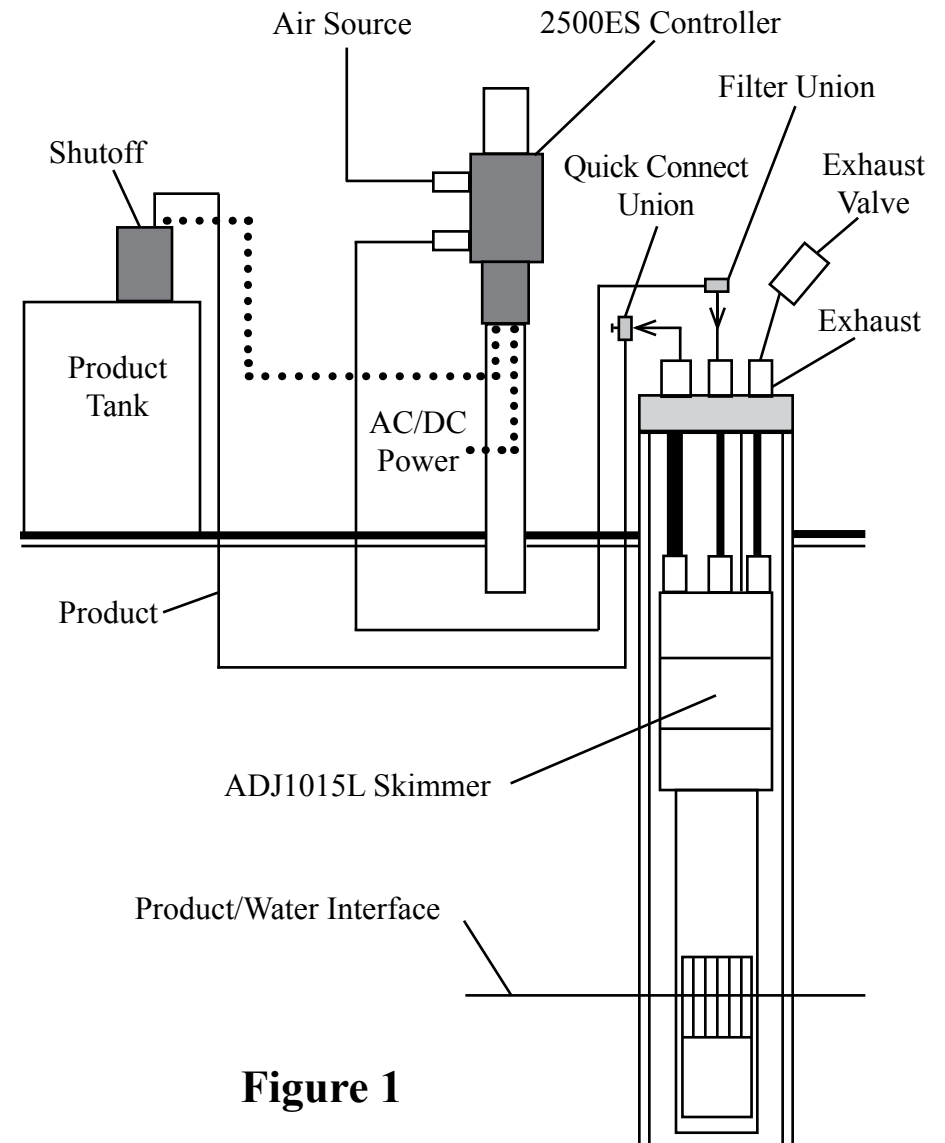
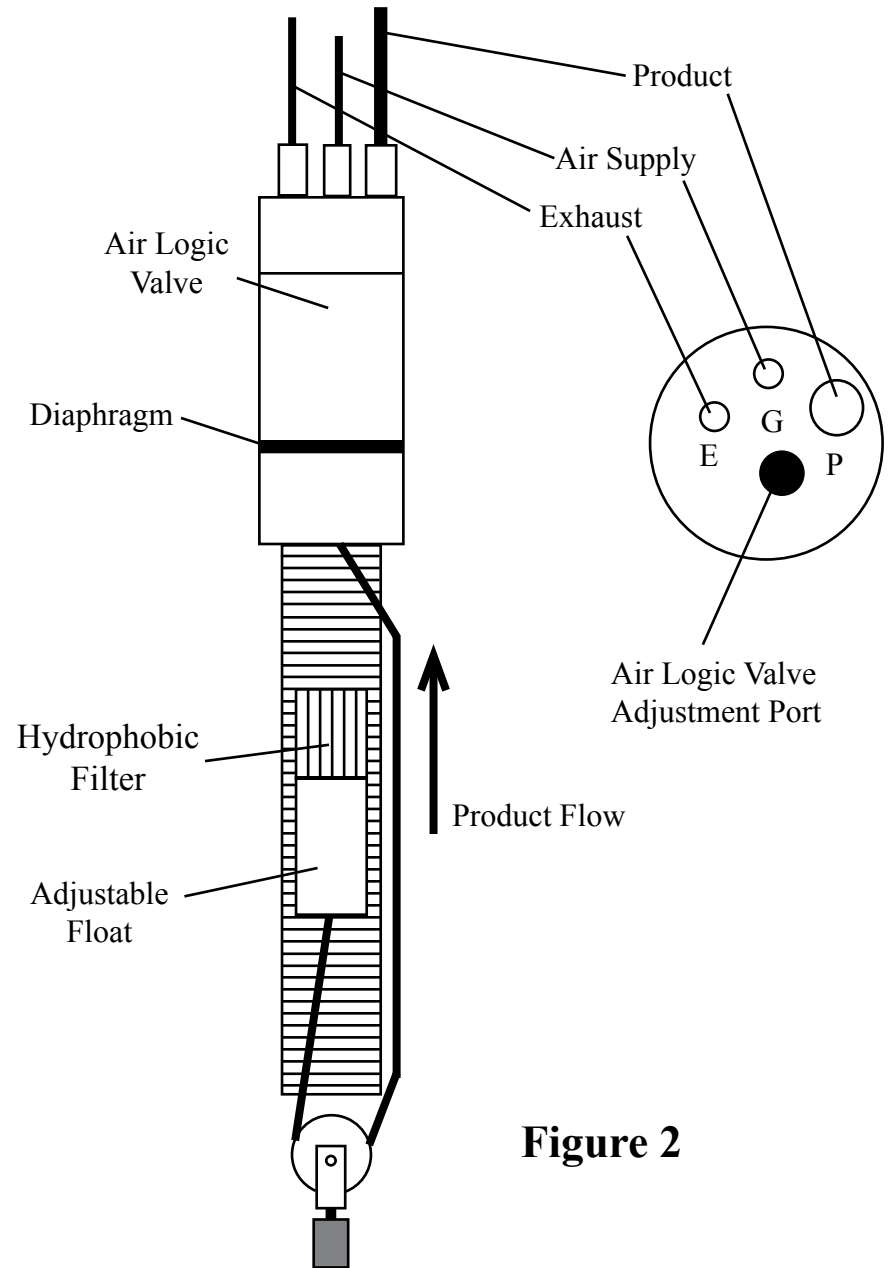

Figure 1
Figure 2
The system (Figure 1) relates to a floating LNAPL recovery system for wells four inches in diameter and larger. This system includes: an intrinsically safe ADJ1015L pneumatic Smart Skimmer, with an adjustable float (Figure 2), which removes LNAPL up to 200 feet deep; and a three function electronic Controller Model 2500ES that operates the skimmer intermittently, records run time, and has a high level tank shutoff assembly.
STEP 7. Position the skimmer and well cap on the ground near the well. **NOTE:** If the skimmer is over 60 feet deep, use a vented design skimmer. Cut a length of 3/8" OD air supply tubing to cover the distance from the top of the well down to water/product interface, plus 5 feet. Slide enough tubing through the well cap and attach the end of the tubing to the top of the skimmer tube fitting labeled "G" (Figure 2). If the product thickness is greater than 1 foot, position the center of the skimmer screen 1 foot below top of product. If the product thickness is less than 1 foot, position the center of the skimmer screen at the water/product interface.
STEP 8. Cut a length of 1/2" OD product tubing same length as the air supply line. Install 1/2" OD product tubing through the well cap tube fitting labeled "P" (Figure 2). Slide enough tubing through the well cap and attach the end of the tubing to the top of the skimmer tube fitting labeled "P". **CAUTION:** Do not kink the tubing.